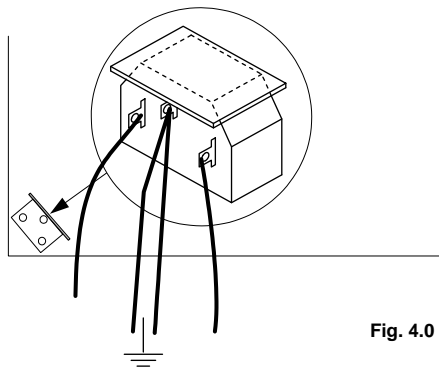

Fig. 4.0
**IMPORTANT:** Stick a piece of insulating foil on the connector, see figure 4.0. This will later be used to prevent the connector piercing through the transformer.